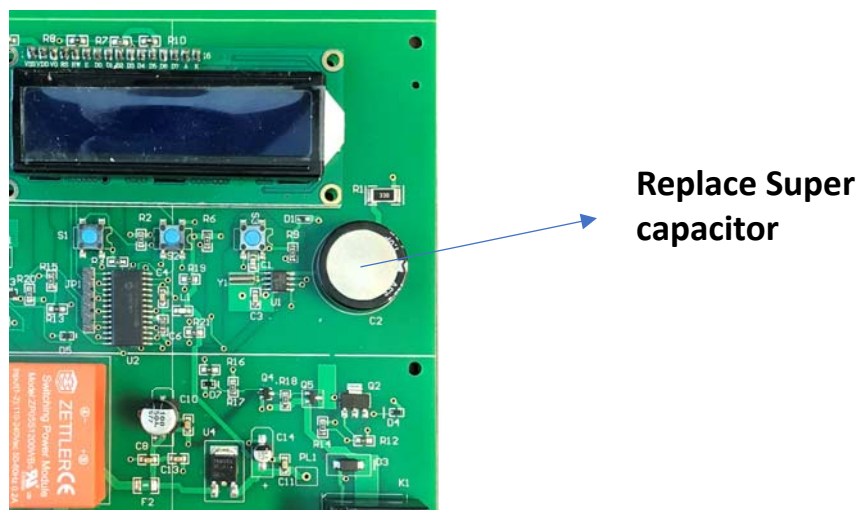

Figure 6 – Clock/Calendar supercapacitor location
2. If the values are not being retained, replace the 1F super capacitor as shown in figure 6.